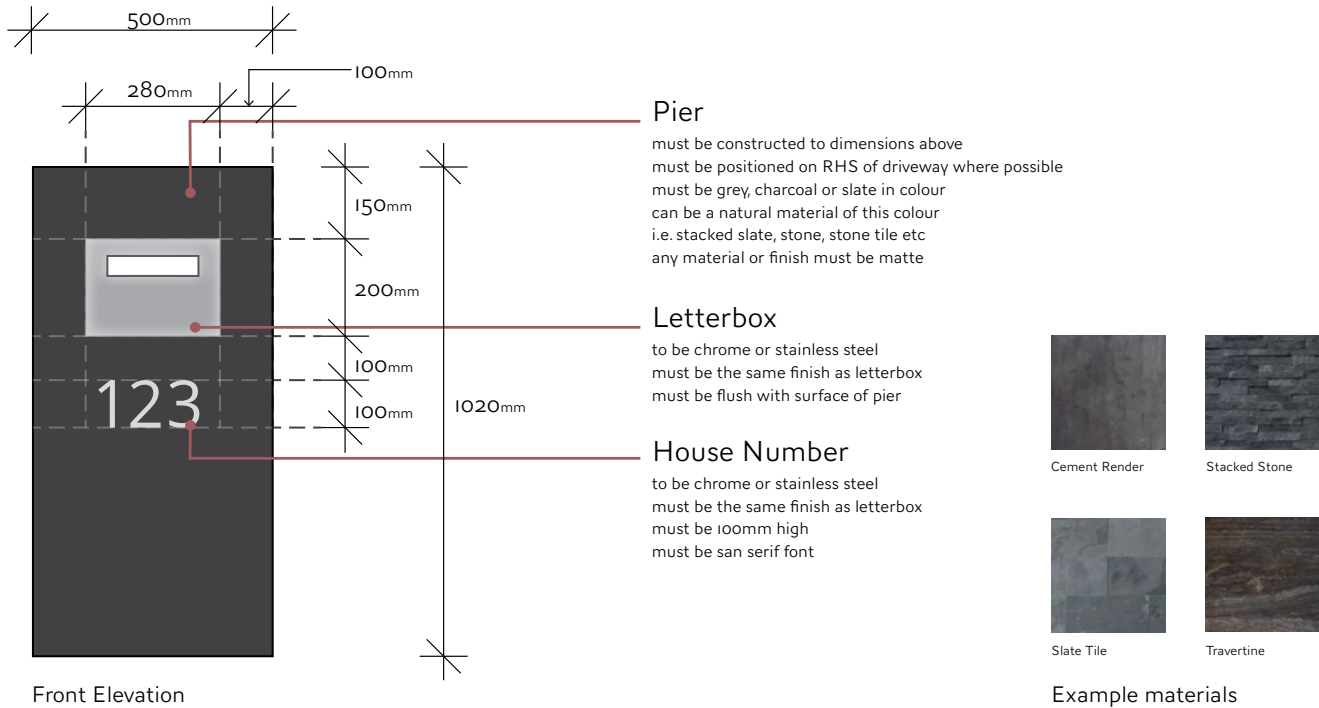

Figure 2. Visually Prominent Lots - Letterbox Requirements
- Refer Visually Prominent Letterbox Diagram (figure 2, p.12) for details.